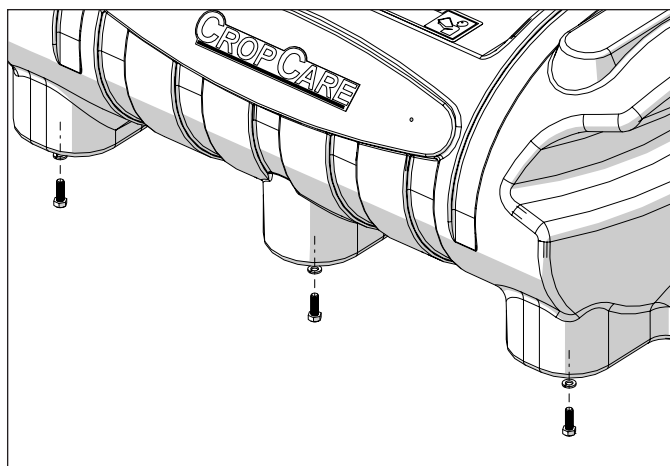
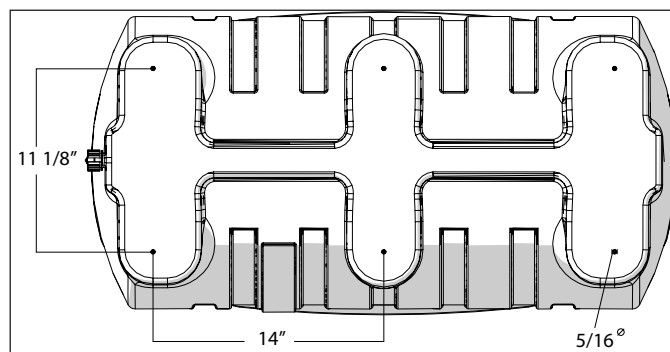

Figure 3: Mounting the applicator
Figure 4: Bottom hole dimensions
4. For optimal stability, mount the liquid applicator with bolts using the six holes in the sprayer's bottom. See Figure 3 on page 5. It is recommended that you measure the distance between the bottom mounting holes because tank measurements can vary up to 1/8". See figure 4 on page 5.